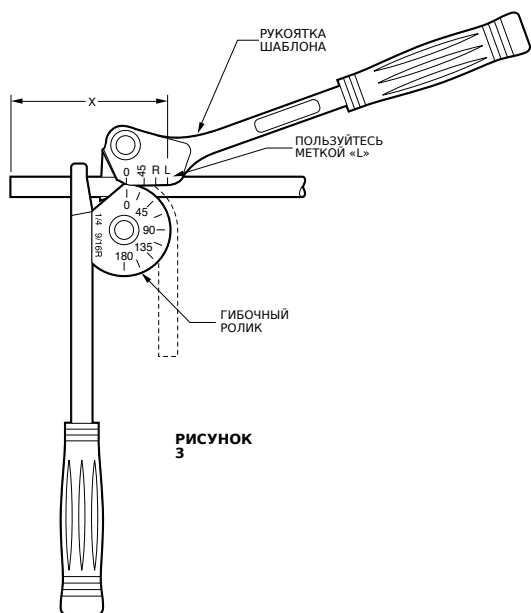

РИСУНОК 3
2. Position tube in bender as shown in Fig. 3. If the end from which you measured is left of the tube clamp, the measured mark should be directly over graduation "L" located on the right side of the form lever and shown in Fig. 3.